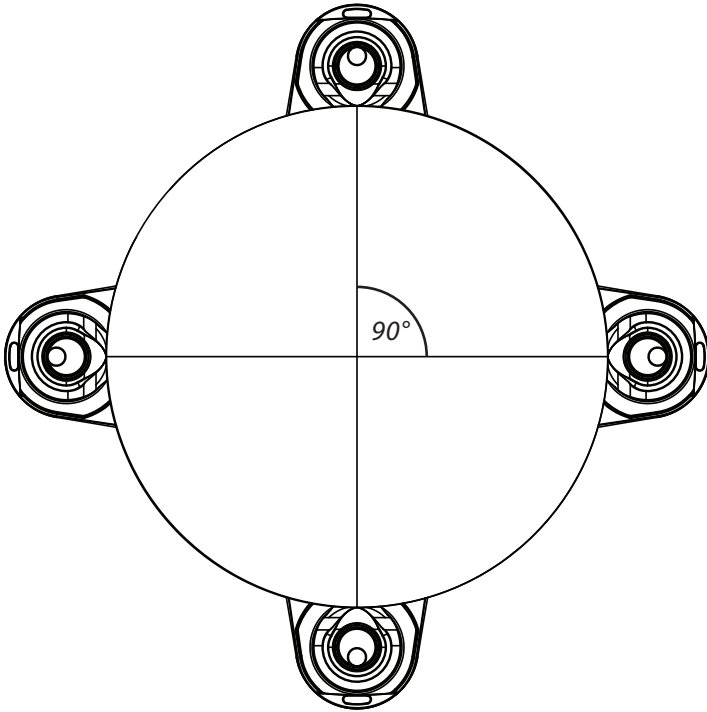

FIG. 5
Flip the Bucket (E) upside down and arrange the Caster assemblies evenly around the bottom edge [FIG. 5].